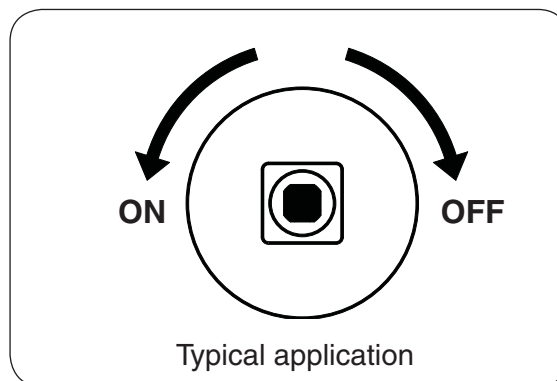

Fig. 14-2
4. **Once the match is burning and in position**, slowly turn the key valve counter-clockwise toward the **ON** position until it no longer rotates (see Fig. 14-2). Your burner should light.
To extinguish your gas burner, turn the key valve clockwise toward the **OFF** position until it no longer rotates (see Fig. 14-2). Be sure the key valve is turned fully off to avoid any gas leakage.